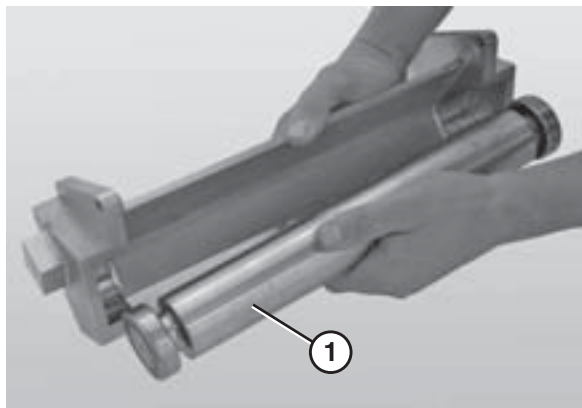

Figure 78
6. Remove the nose bar return spindle (Figure 78, item 1).